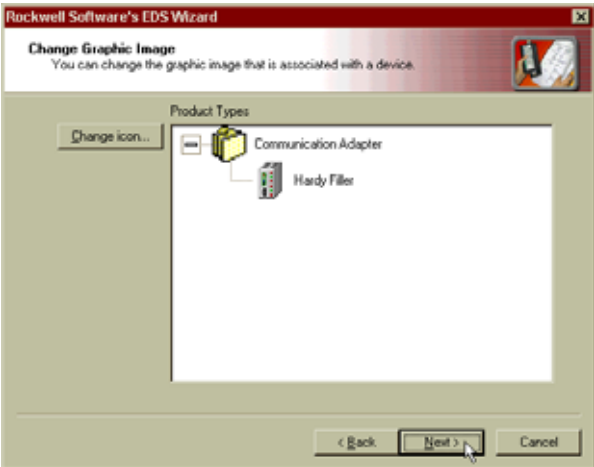

FIG. 116: CHANGE GRAPHIC IMAGE DIALOG BOX
- Step 12. Click on Next. The Change Graphic Image dialog box appears. (See Fig. 116)